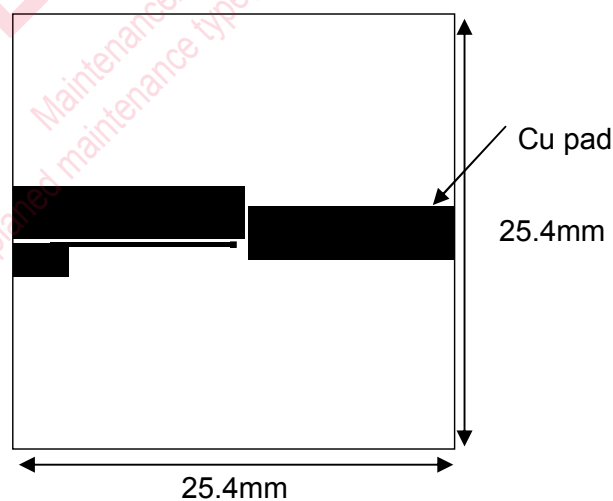

Figure3: Glass epoxy board typeC
*4 When mounted on glass epoxy board typeC (Refer to Figure3)